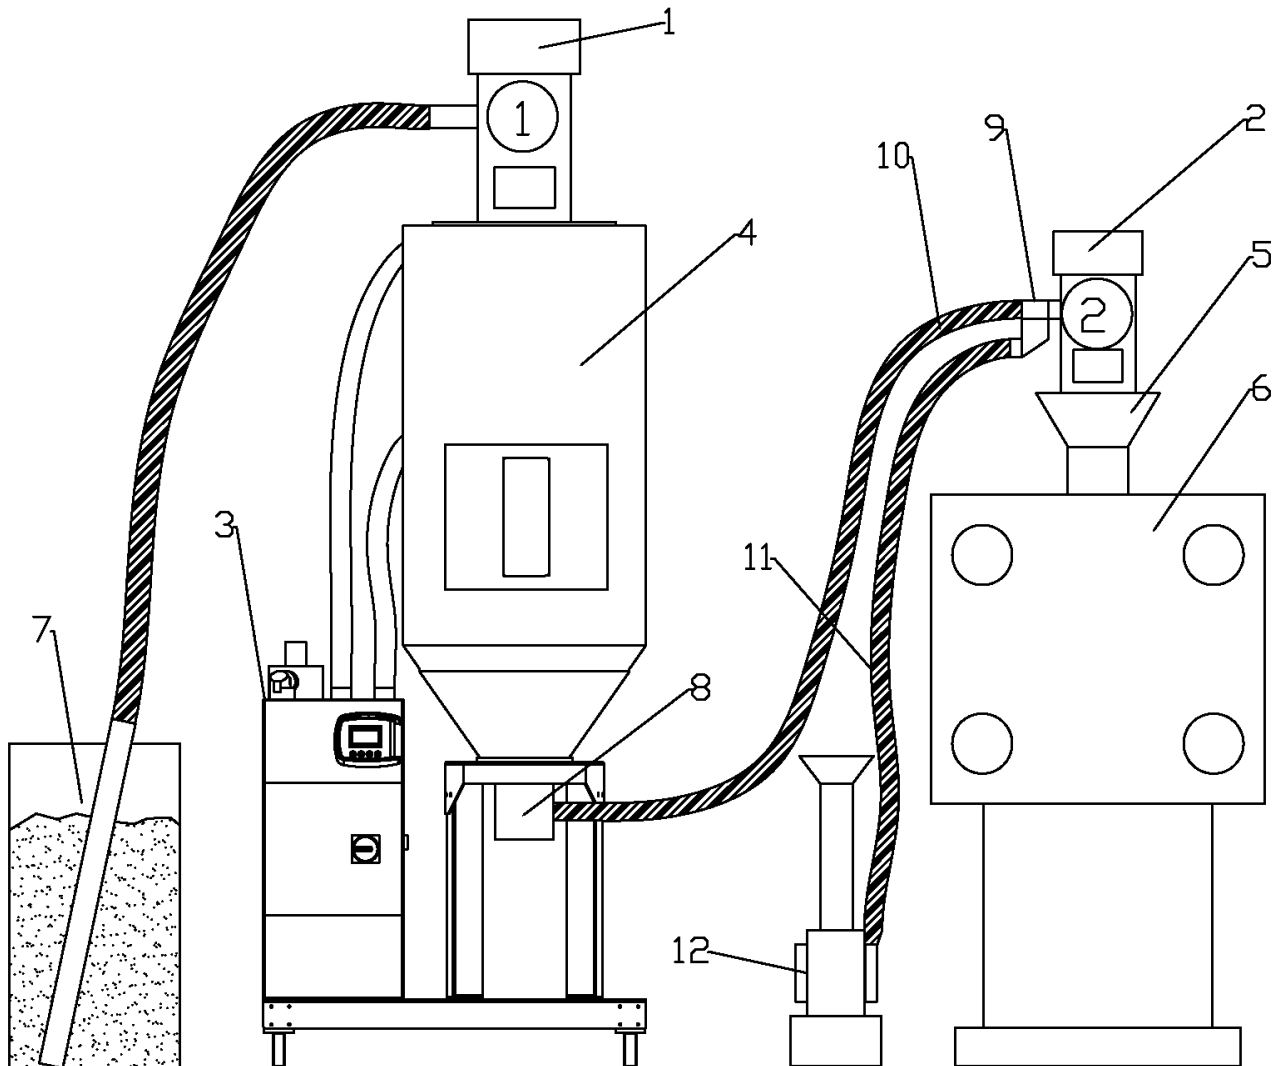

Fig. 10.1
The dryer can be equipped with components that allow to work with additional advanced features. A stand alone application could be as in the figure 10.1. The dryer 3 works with a hopper 4 and control the drying hopper loader 1 to suck the material from a bulk container 7. On the material discharge of the hopper 8 the dried plastics pellets is conveyed through a pipe 10 to the machine hopper loader 2 which fills a small maintenance hopper on the IMM or extruder 6. A proportional valve 9 can be installed to mix the main material with, for example, a just regrinded material from the grinder 12.
The proportional valve, item 9 in fig. 10.1, is a special optional motorized valve controlled by the dryer 3 and that's allow to mix in the desired percentage two different material. The proportion between the two materials is reach dividing to suction time trough pipe 10 and 11 according to the percentage required. For example if the total suction time is 20 seconds and the regrind percentage is 25% the suction time will be 5 second for the regrind and 15 second for the main material. Additionally can be used more than a proportional cycle for each charge, for example with 2 cycle the regrind sucking time will be 2,5 second than 1,7 second main material then 2,5 second regrind than last 7,5 second of main material. Increasing the cycle time will increase also the homogeneity of the two material but will lower the convey efficiency so it's important to regulate the cycle number just the minimum value needed.